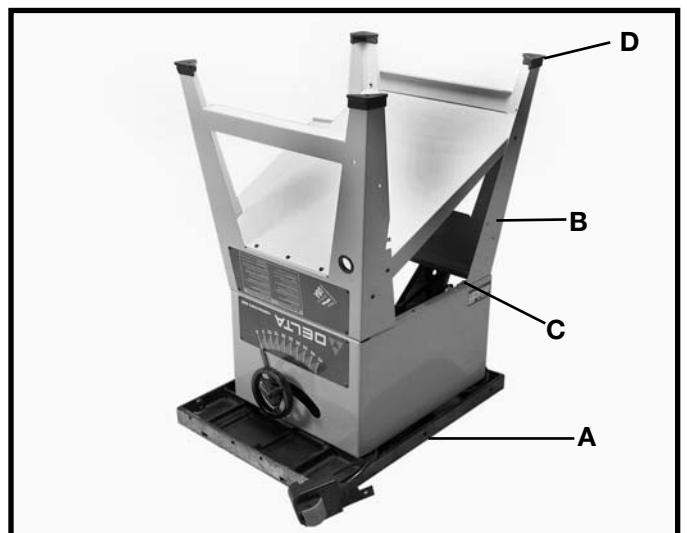

Fig. 11
1. Turn saw table face down on a piece of cardboard to protect the table surface. Place stand (B) Fig. 11, onto saw (A). Align eight holes in the stand (B) with mounting holes in the saw (A) and fasten with eight 5/16"-18 screws, flat washers, lockwashers, and hex nuts one of which is shown at (C) Fig. 11. Assemble flat washers onto screws, place screws through holes, assemble lockwashers then hex nuts finger tight. Do not completely tighten hardware at this time.
2. Install four rubber feet (D) Fig. 11, on the end of each stand leg (B).